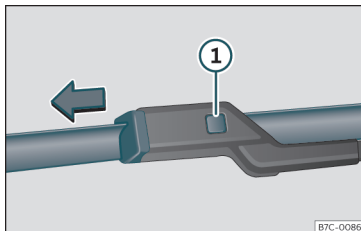

Fig. 68 Changing the windscreen wiper blades
- Press and hold release button >>> Fig. 68 ❶ and pull gently on the wiper blade in the direction of the arrow.